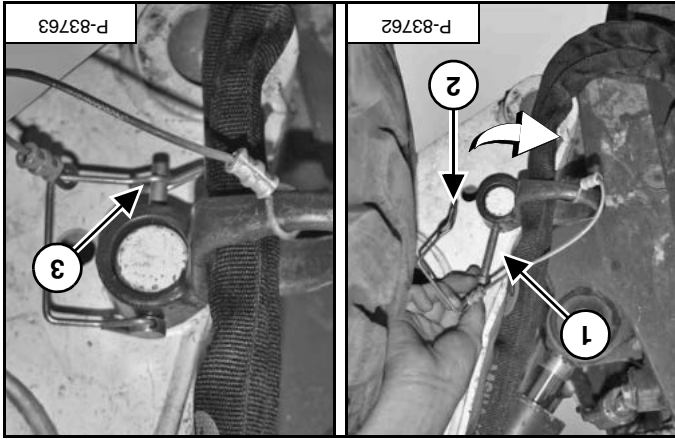

Figure 50
Insert lock pin (item 1) through the removable hose guide and mounting post and latch eyelet (item 2) onto the lock pin (item 3) [Figure 50].